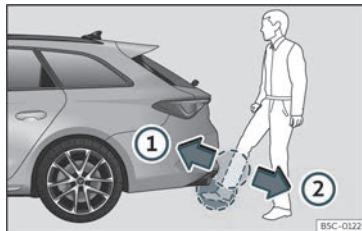

Fig. 88 Rear lid with sensor-controlled opening (Easy Open).
- With a brisk movement, bring your foot and lower leg as close as you can to the bumper. The lower part of the leg needs to be close to the upper sensor area and your foot must be close to the lower sensor area **>>> Fig. 88 ①**.
- Quickly remove your foot and lower leg from the sensor areas **>>> Fig. 88 ②**. The rear lid will open automatically.